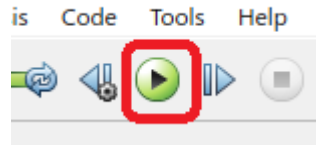

Figure 8: Simulink model Run button.
Step 6: Click on the ‘Run’ button as seen in figure 8 (make sure that all switches are in required positions i.e Recording is OFF, Controller if present is off)